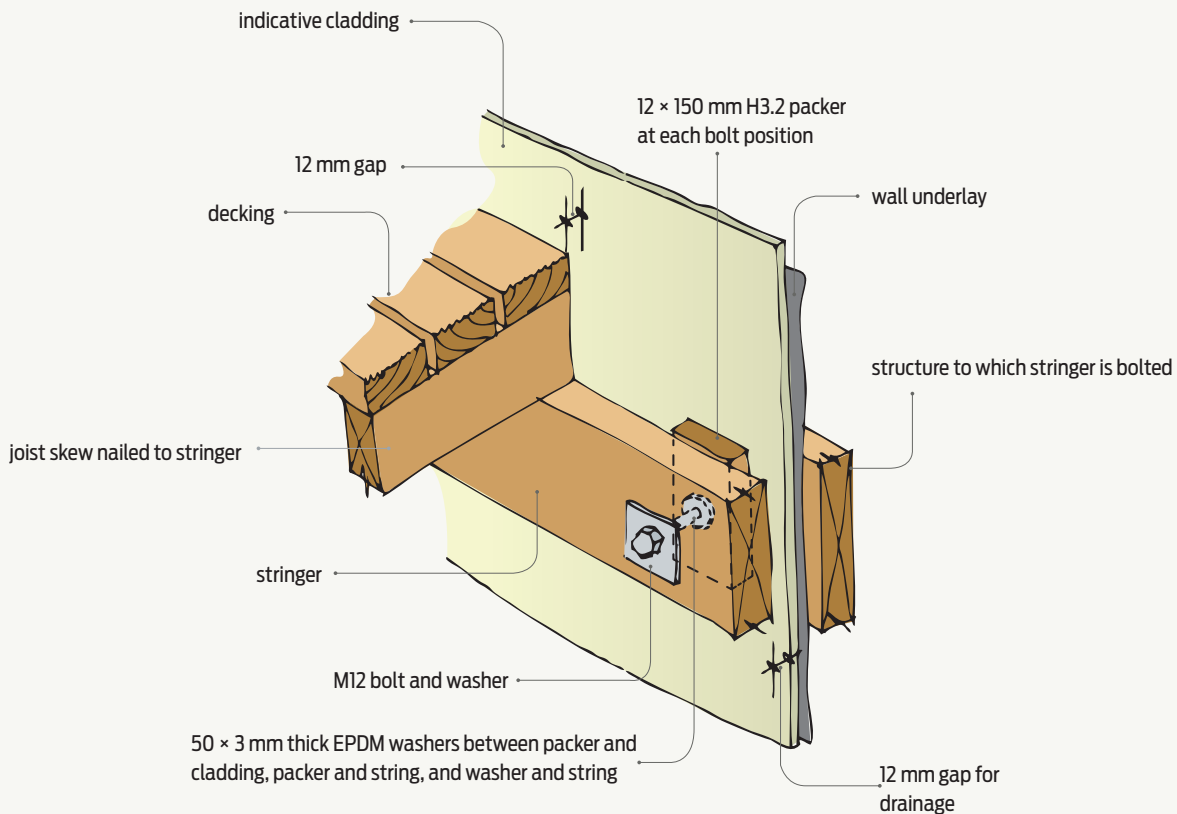

Figure 11 Connection of deck stringer to cladding – direct-fixed.
- a 12 mm minimum gap between the cladding and the decking for drainage (E2/AS1 paragraph 7.1.1) – see Figures 11 and 12